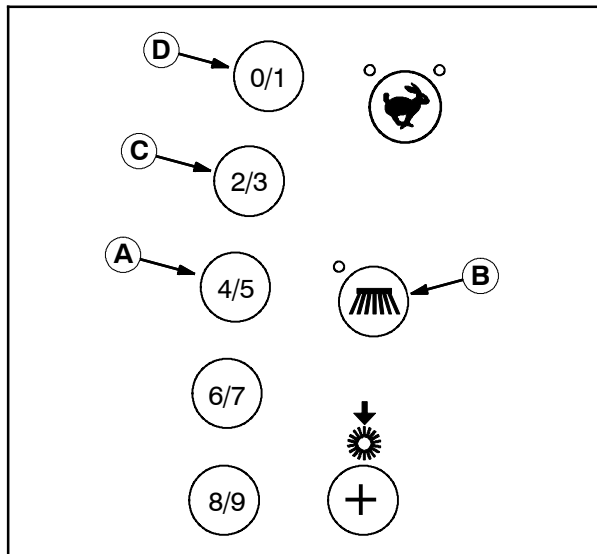
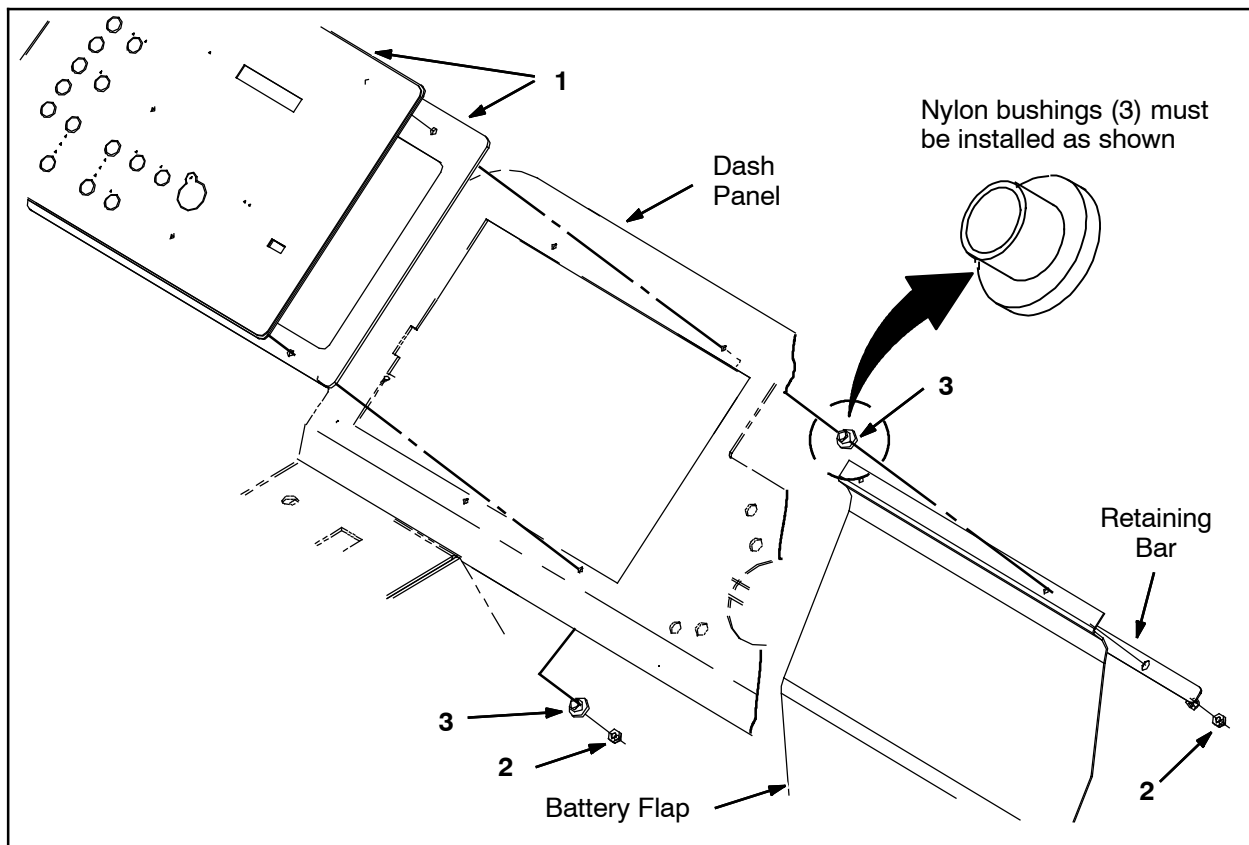

FIG. 1
FIG. 2
4. Remove the two hex nuts holding the battery flap and retaining bar to the back of the dash panel. Set the battery flap and retaining bar aside. Mounting hardware has changed, discard existing hex nuts. Refer to Fig. 2.
5. Remove the two hex nuts holding the bottom of the control panel to the back of the dash panel. Mounting hardware has changed, discard existing hex nuts. Refer to Fig. 2.
6. Remove the instrument panel from the dash panel. **Do Not** discard the instrument panel. Send the instrument panel back to Tennant Warranty Department. Refer to Fig. 2.
1. Use four hex nuts (2) and four nylon bushings (3) to install the new control panel (1), battery cover, and retaining bar onto the dash panel. Refer to Fig. 2.
*NOTE: The nylon bushings (3) **must be installed** as shown in Fig. 2 to prevent static electricity from damaging the control panel (1).*
2. Reconnect the main wire harness to the control panel (1).
*NOTE: Refer to Steps 4 through 7 to reconfigure the control panel (1) so it matches the machine.*
4. To enter configuration mode: Simultaneously press and hold the 4/5 button (A) and Side Brush button (B) and turn the ignition switch to the on position (without starting machine). Refer to Fig. 1.
5. To select configuration: Use the 2/3 button (C) to scroll to the proper mode (**ES**, **FaST**, or **No ES**, **No FaST** option from the menu) and use the 0/1 (D) button to select the applicable mode. Refer to Fig. 1.
6. If machine is equipped with the **Side Brush Sweep Only** option reenter the configuration mode and select **Side Brush Sweep Only** from the configuration menu. Refer to Fig. 1.